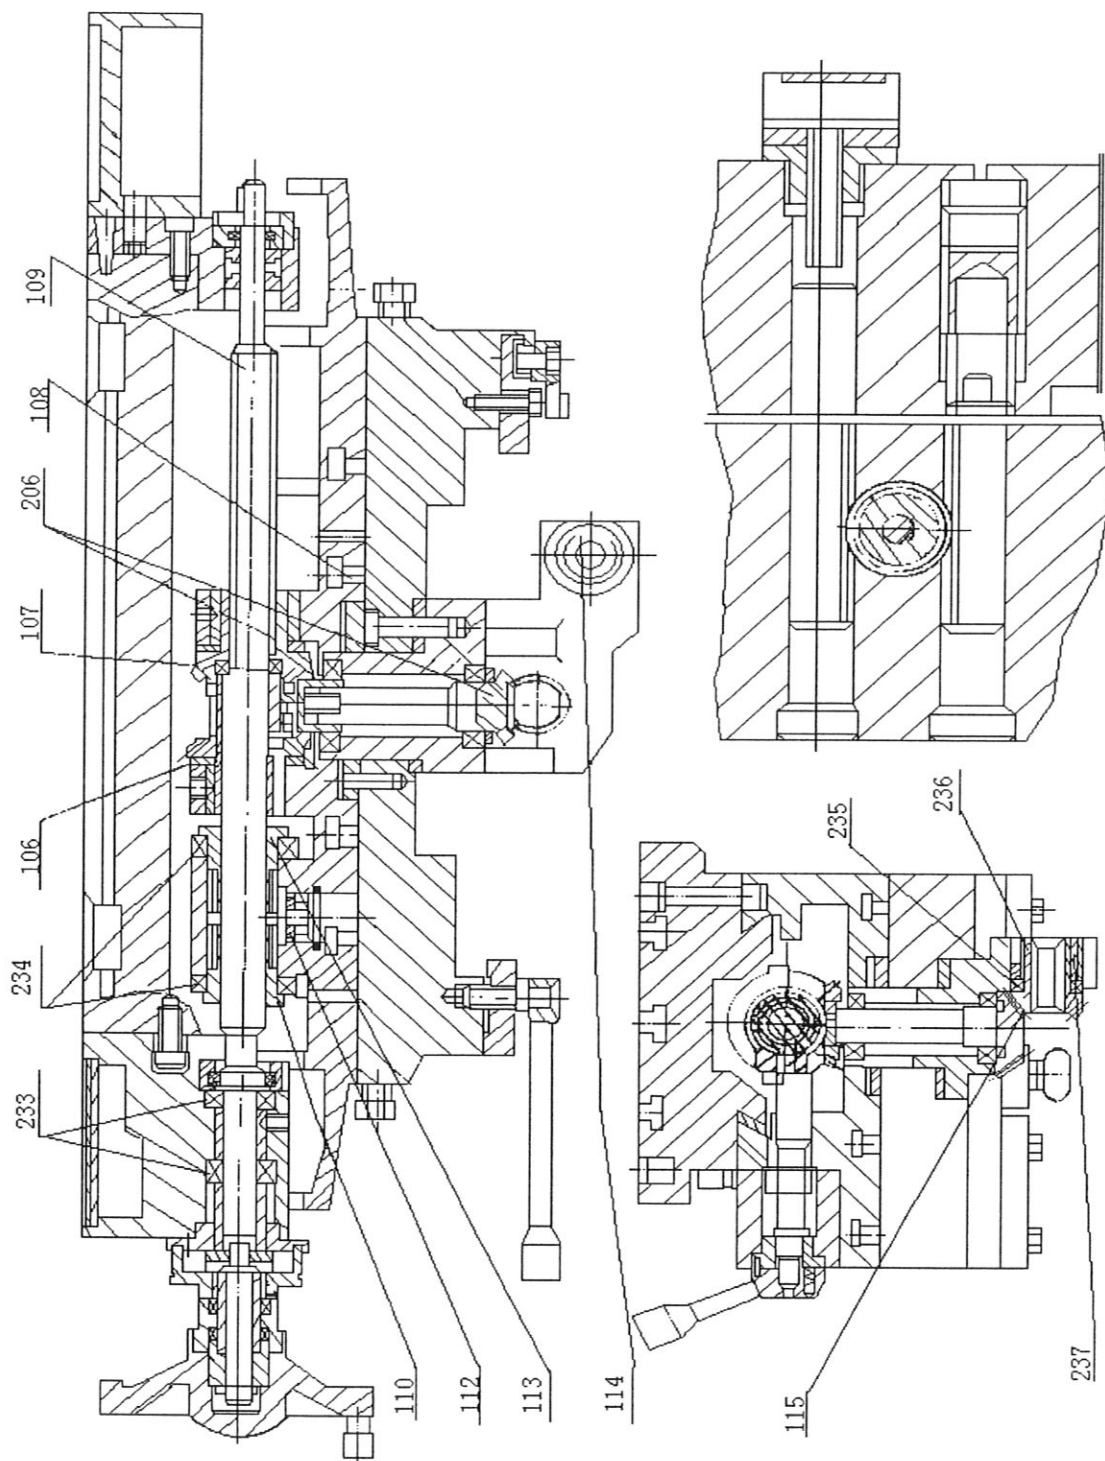

Fig.13 Structure of driving system of working table (ladder type lead-screw)
4.1 Sketch of lubrication position(See Fig.13)